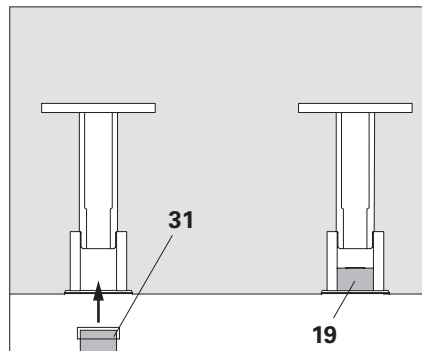
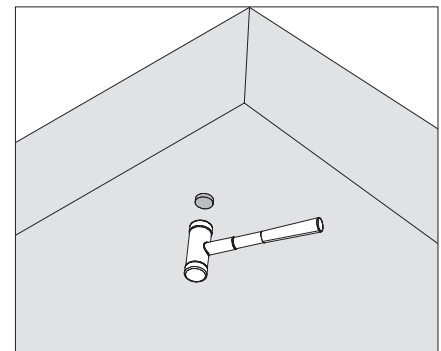

Fig. A5.13
Fig. A5.13a
2. Mix 2-component Repoxal glue (31) according to the manufacturer's instructions.
3. Submerge Plug FRC Ø 32 (19b) for Anchor Positioning Stud M24 or Ø 40 (19a) for Threaded Cone M24 on one side into the 2-component Repoxal glue (31).
4. Tap Plug FRC (19) into the tie hole using a rubber-headed hammer until flush with hole.
5. Remove adhesive residue with a spatula. (Fig. A5.13 + Fig. A5.13a)